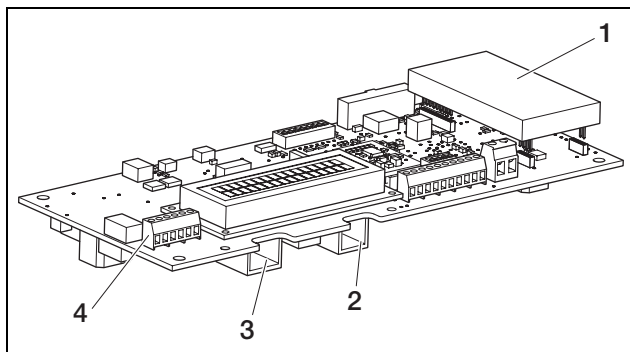

Fig. 31: Communication interfaces
- Insert the plug of the Ethernet cable into the corresponding socket (3 figure 31).
- Insert the plug of the telephone cable into the corresponding socket (2 figure 31).
Instead of the RJ45 and RJ11 sockets, you can use the six-pole screw terminal to connect the Ethernet cable and telephone cable (4 in figure 31). This type of connection is intended for installation in large systems.